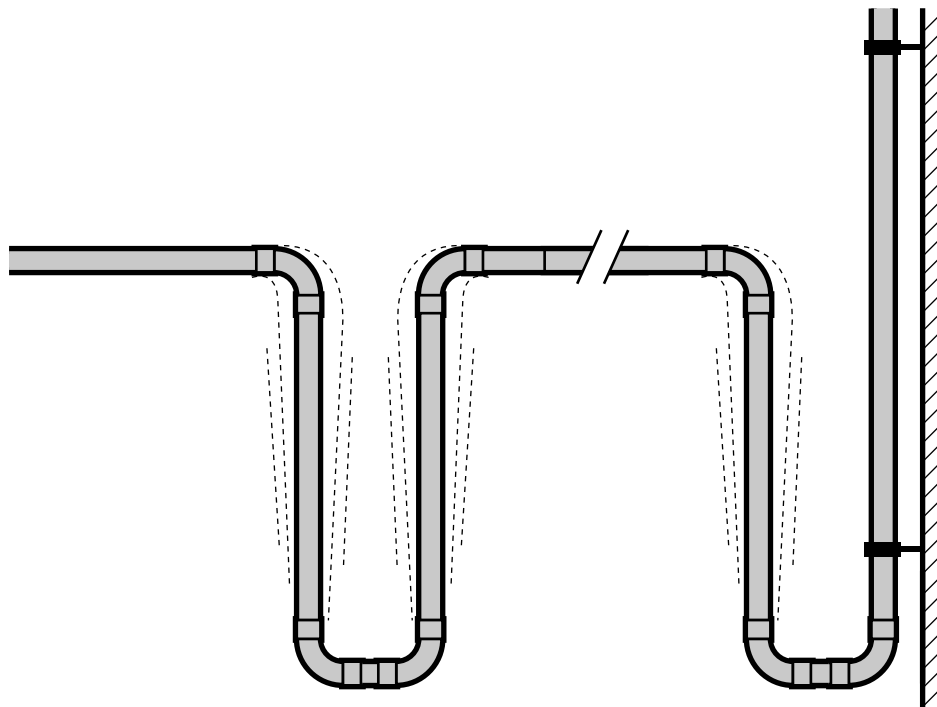

Fig. 1 *Expansion/contraction assemblies. These allow longer main sampling pipe runs to expand or contract without excessive buckling.*
- If the working temperature of the installation is to be above or below the temperature at which the sampling pipe is installed, it is important to allow for the subsequent expansion or contraction of the sampling pipework. To achieve this it is advisable to allow for expansion/contraction U-bends in longer pipe runs. See fig. 1.